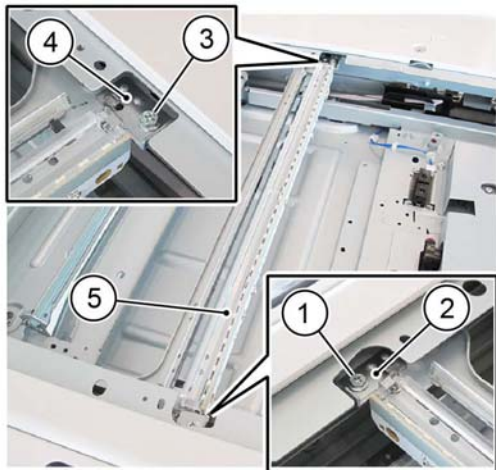

Figure 2 Light guide removal
5. Remove the light guide, **Figure 2**:
- a. Remove the screw (1).
- b. Remove the spring guide (2).
- c. Remove the screw (3).
- d. Remove the spring guide (4).
- e. Remove the light guide (5).